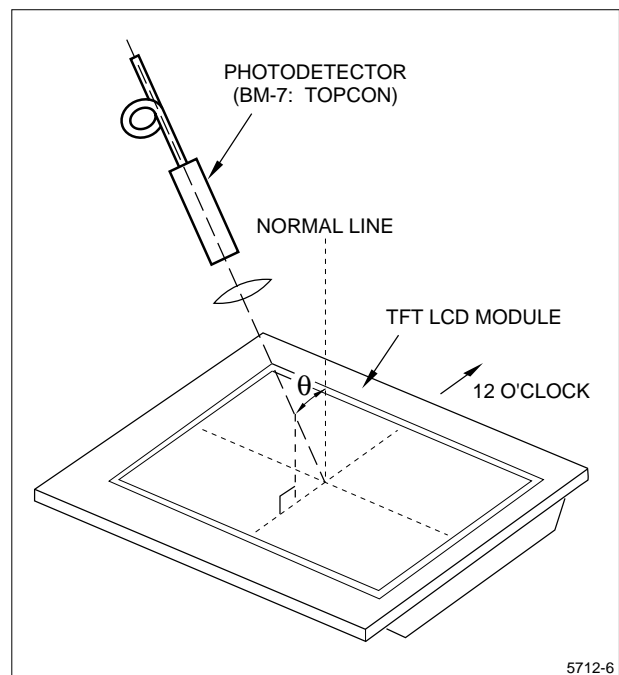

Figure 7. Optical Characteristics Measurement Method
- Measurements shall be taken at the center of the screen (as shown in Figure 7).